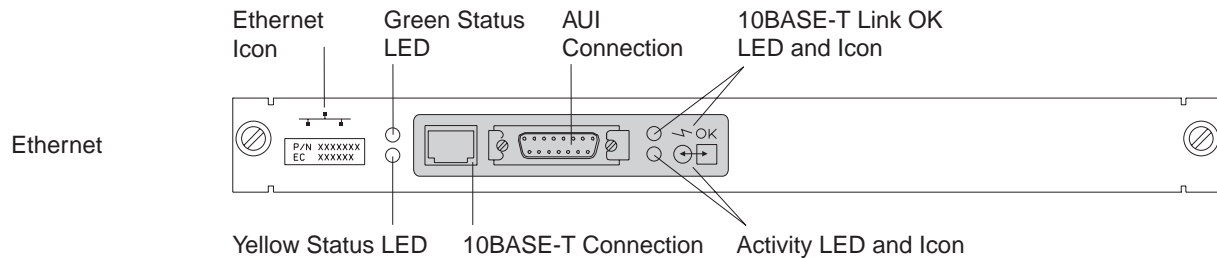

Figure 2-10. Ethernet Attachment Module
- c. \_\_\_\_ Plug wrap plug **C** (PN 70X8670) in the AUJ connector of the Ethernet module (refer to Figure 2-10 on page 2-9).